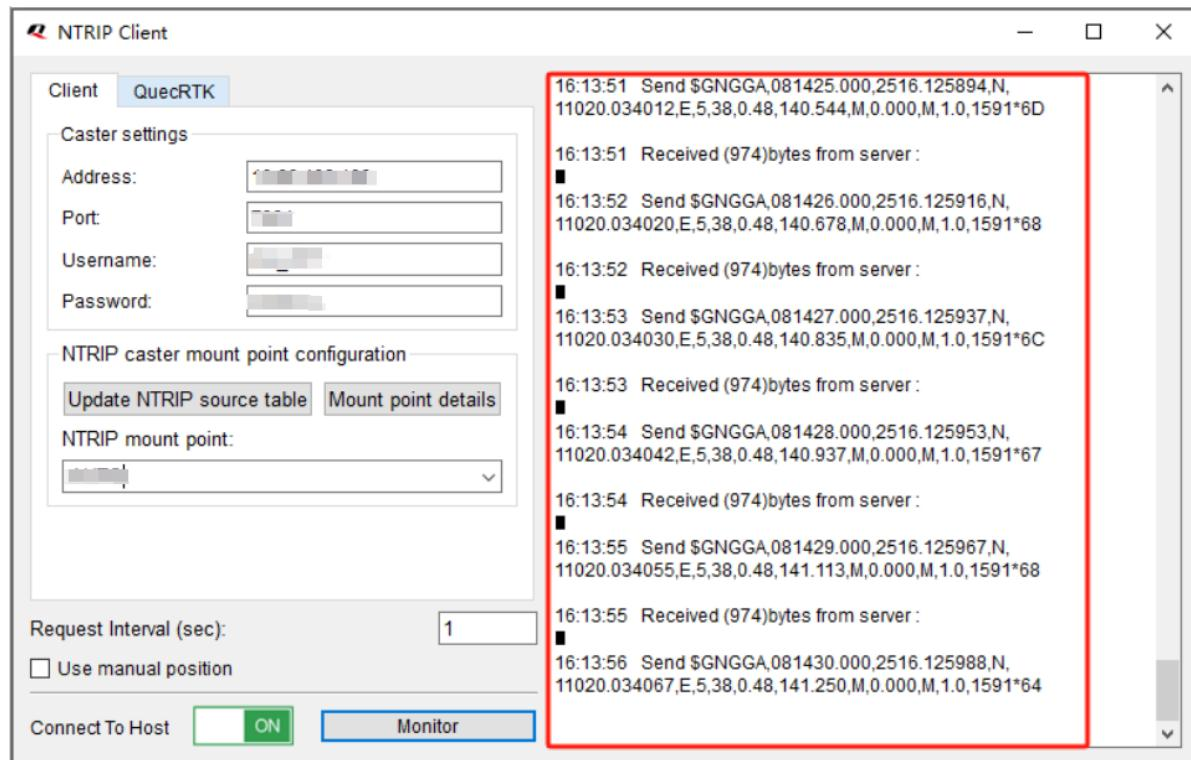

Figure 28: Connected to Server Successfully
**Step 6:** Switch ON the “**Connect to Host**”. If the configuration is correct, you can see the messages sent to the RTK server and differential data received in the box on the right as shown in Figure 28: Connected to Server Successfully.